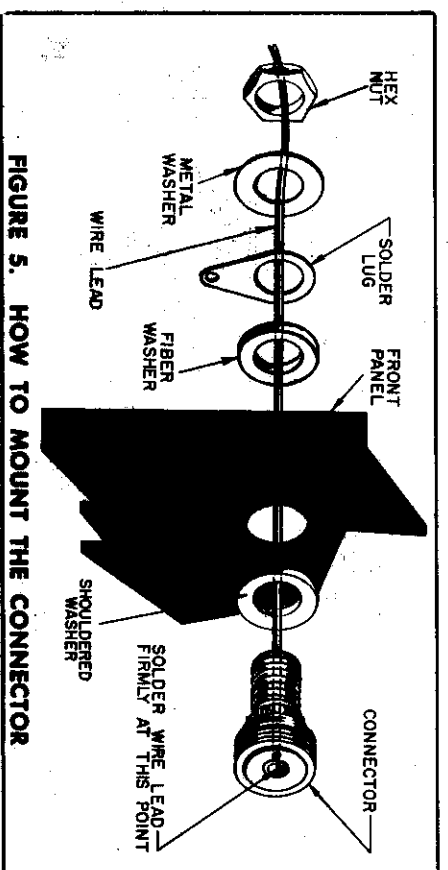

FIGURE 5. HOW TO MOUNT THE CONNECTOR
- (✓) Mount the input connector (J-1) on the right side of the panel. Place a fiber washer over the threaded section and insert the connector through the hole from the front of the panel. Place another fiber washer, a solder lug, and a flat metal washer over the threaded section. Attach a nut and tighten it securely. See Figure 5.